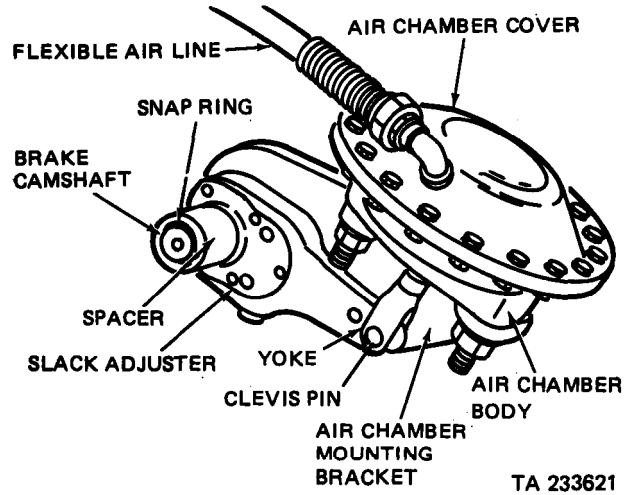

Figure 4-39. Slack adjuster and air chamber (M127)
h. Slack Adjusters (M127). The slack adjusters (fig. 4-39) are levers mounted on the brake camshafts. Push rods of the air chambers operate the slack adjusters which in turn rotate the camshafts causing the cams to press the brake shoes against the brake drums. Provision is made to adjust the angle of the slack adjuster on the camshaft to afford the most efficient brake operation. This is obtained when the travel of the arm of the slack adjuster is held to a minimum and full leverage is used. Such adjustment is termed the "minor" adjustment of the brakes. Gearing in the housing of the slack adjuster permits positioning it at precise angles on the camshaft. A round opening through the body of the slack adjuster exposes the splined hub of a worm wheel. The splines in the worm wheel engage the splines on the brake camshaft. A worm gear in the housing engages the worm wheel. The worm gear is mounted on a worm shaft, one end of which protrudes through the slack adjuster. When the worm shaft is turned with a wrench, the worm gear causes the housing to rotate around the worm wheel. The worm shaft is locked against undesirable turning by a lock spring.
k. Air Chamber (M127). Air chambers (fig. 4-39) are mounted on brackets adjacent to the internal wheel brakes in front of the forward-rear axle and at the back of the rear rear axle. These air chambers convert air pressure into mechanical motion to operate the slack adjusters when applying brakes.